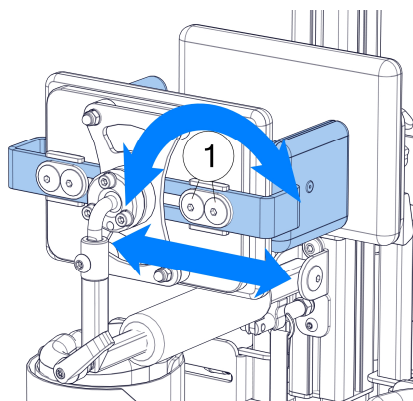

Fig. 33
The 3D rotational back support can be equipped with additional hip supports (Fig. 33) to provide greater ability to stabilize the patient in the device. The hip supports of the back support have the possibility of adjusting their width and angle of abduction. To do this, loosen the screws (1), set the desired position, and then tighten them. This adjustment is carried out on both sides of the device independently of each other.